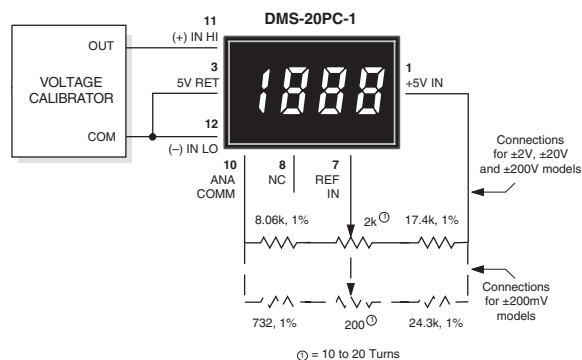

Figure 10. External Gain Adjustment
- 6. Gain Adjust:** There is a gain-adjust potentiometer on the back of each meter. It has approximately ±50 counts (±2.5%) range of adjustment. Since these devices essentially have no zero/offset errors, a gain adjustment is effectively an overall accuracy adjustment. Though they may be performed at any point (except zero), accuracy adjustments are most effective when performed with higher level input signals. The circuit shown in Figure 10 provides ±10% range of adjustment.
8. External Gain Adjustment: Connect REFERENCE OUT (pin 8) to REFERENCE IN (pin 7) for normal, factory calibrated, operation. Use the circuit shown in Figure 10 for applications needing external gain adjustment. Calibration is performed with a precise, near-full-scale, input voltage.